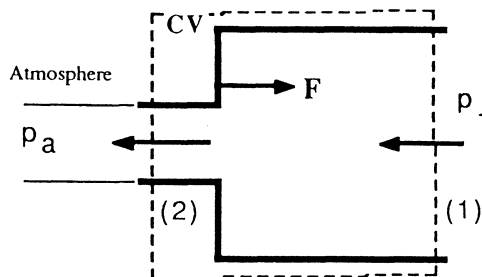

Fig. P3.42
**3.42** A liquid of density  $\rho$  flows through the sudden contraction in Fig. P3.42 and exits to the atmosphere. Assume uniform conditions ( $p_1$ ,  $V_1$ ,  $D_1$ ) at section 1 and ( $p_2$ ,  $V_2$ ,  $D_2$ ) at section 2. Find an expression for the force  $F$  exerted by the fluid on the contraction.